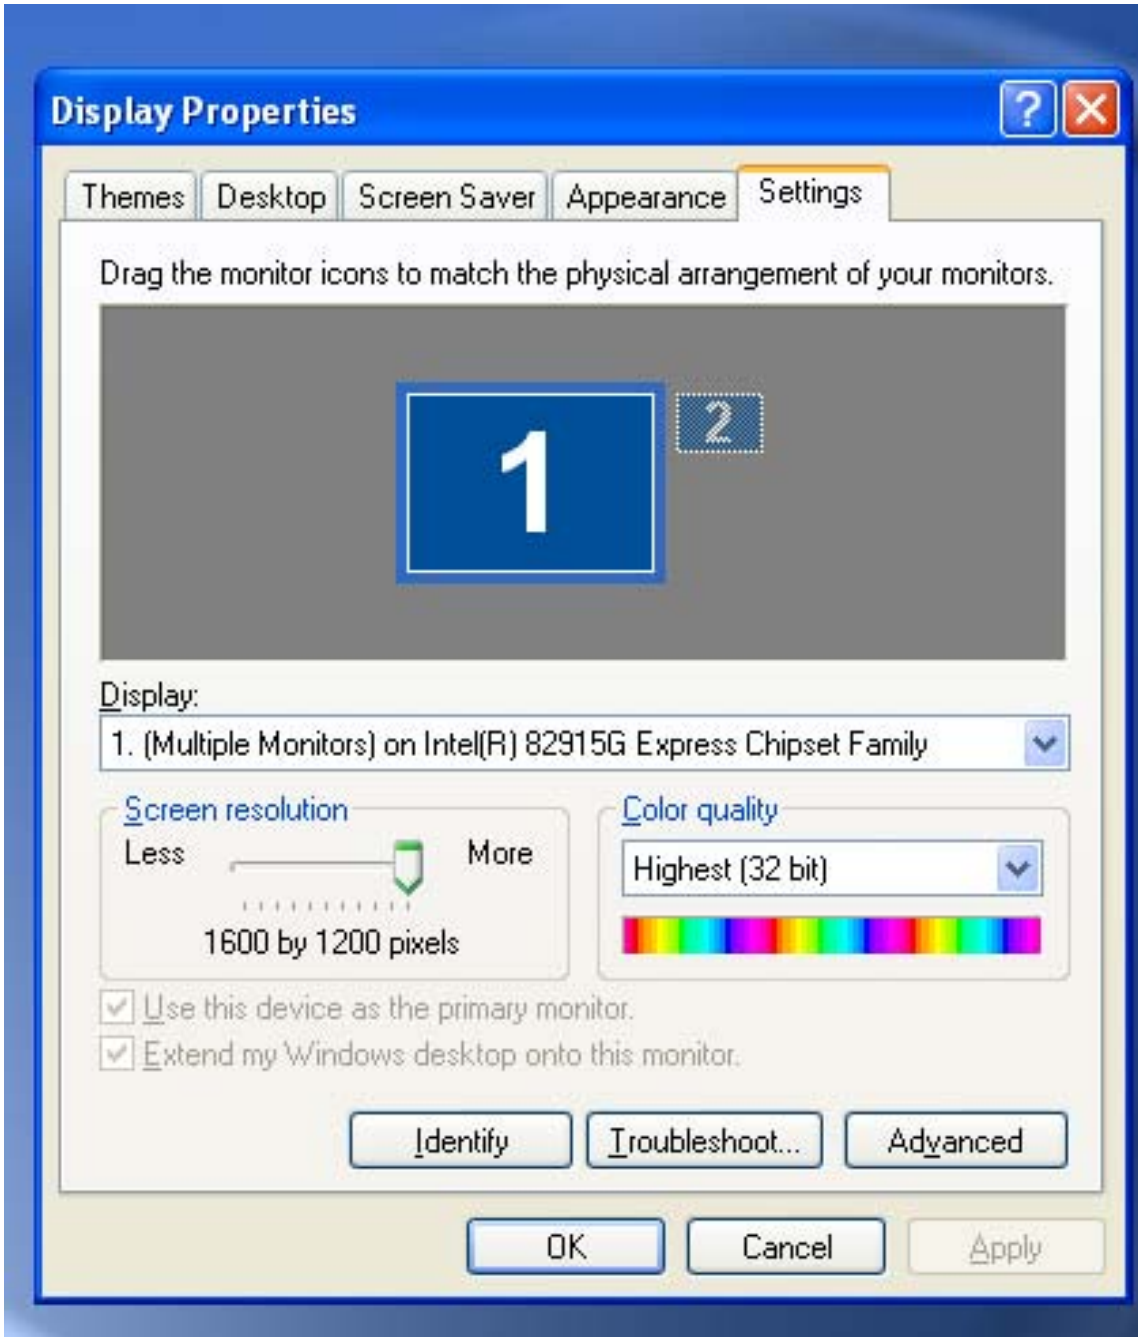

Figure 7. Changing Resolution
d. To change resolution, right click on the mouse and select Properties. Select the “Settings” tab as shown in Figure 7. The slider in the Screen Resolution box allows change of resolution. Slide the marker on the slider bar to the intended resolution and click OK.